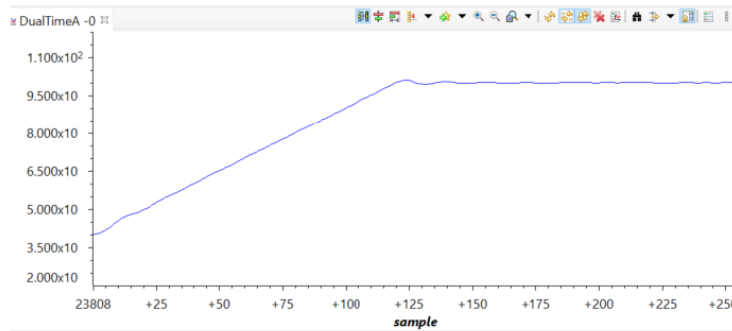

Figure 16 Speed step response showing no overshoot at high bandwidth
- Now refresh the graph window, to see the speed step response as shown in Figure 16.